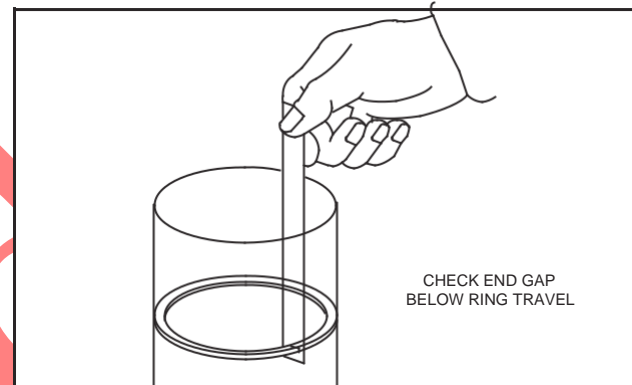

Fig. 4 – Checking End Gap
2. Check ring end gap, Fig. 4.